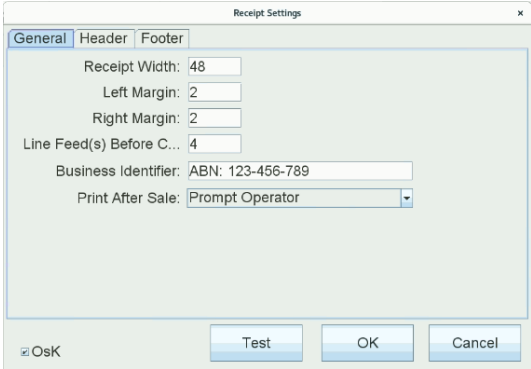

Figure 27: T-POS Receipt Settings
The T-POS Terminal comes preconfigured with several payment types, selectable from the right side of the sales ledger (see Figure 27). These payment types can still be configurable but they cannot be removed, as the first 80 entries are reserved.
4. Select **Show** if you want the Payment Type to be visible when selecting a Card from the **T-POS Home Screen** (see Figure 27).